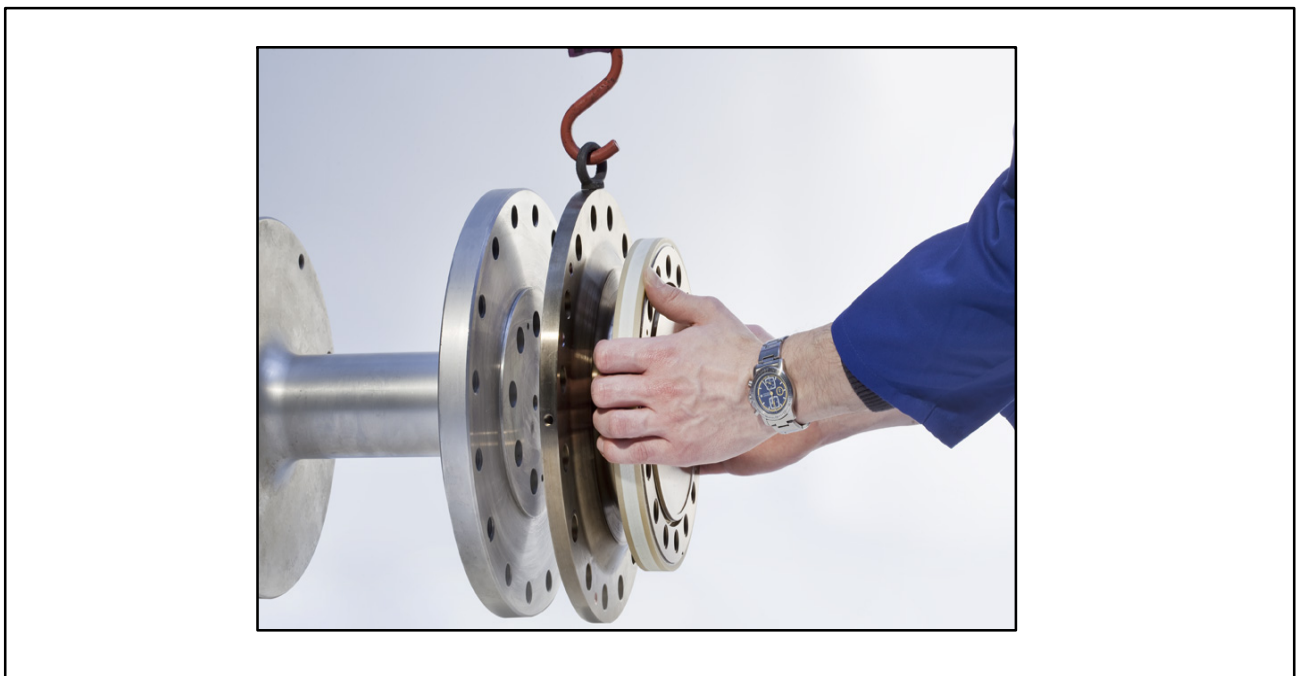

Fig 4.3: Rotor installation (horizontal)
3. If the rotor is to be installed horizontally as shown in Fig 4.3, remove *one* mounting eye bolt. Both mounting eye bolts can initially remain in the flange for vertical installation.